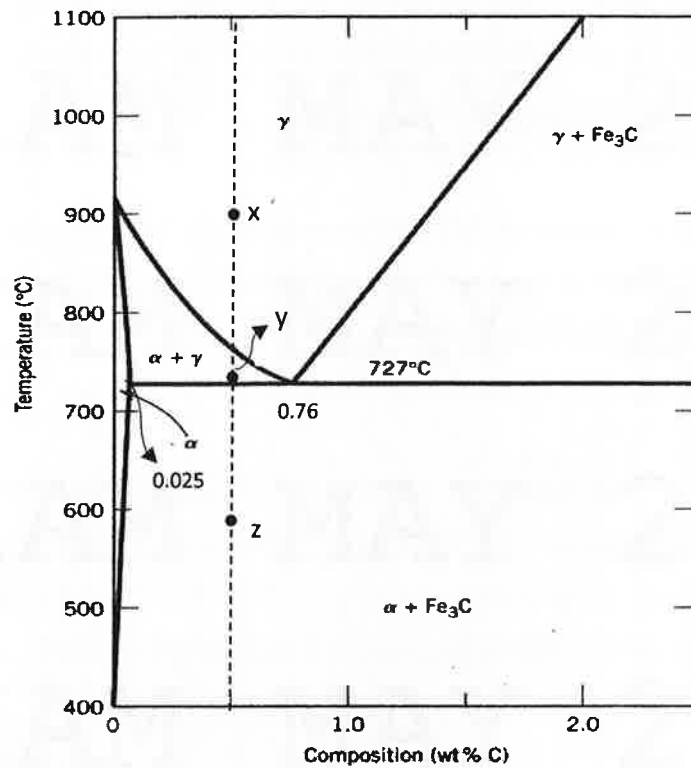

FIGURE Q4
4. Consider the iron-carbon (Fe-C) equilibrium phase diagram shown in **FIGURE Q4** and answer the following questions.
- a. Name the α and γ phases as indicated in **FIGURE Q4**.
- c. Sketch and describe the equilibrium microstructures that would be observed at points x, y and z in **FIGURE Q4** for an alloy of composition 0.50 percent carbon, as it is cooled from the γ phase region. Label the respective phase(s) formed.